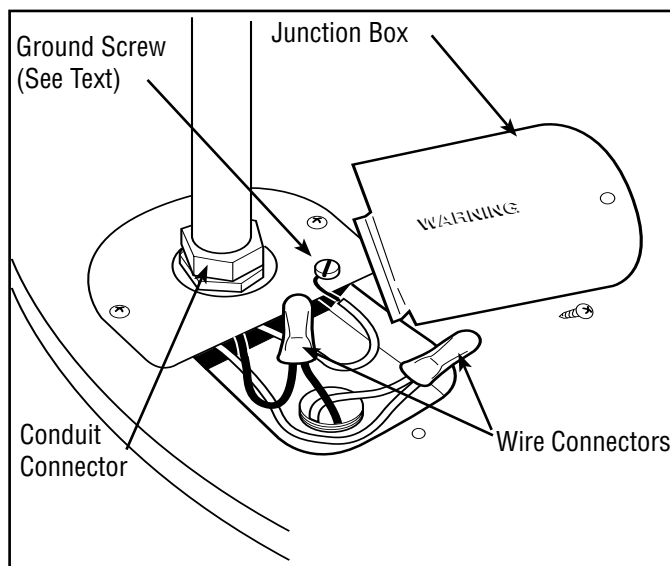

Figure 3. — Water Heater Junction Box.
The water heater is completely wired to the junction box inside jacket at top front of water heater. An opening for 1/2" or 3/4" electrical fitting is provided for field wiring connections. (Refer to Fig. 3)
- B. Non-metallic sheathed cable or metallic conduit or metallic sheathed cable not approved for use as a ground conductor shall include a separate conductor for grounding. It should be attached to the ground terminals of the water heater and the electrical distribution box. (Refer to Fig. 3)